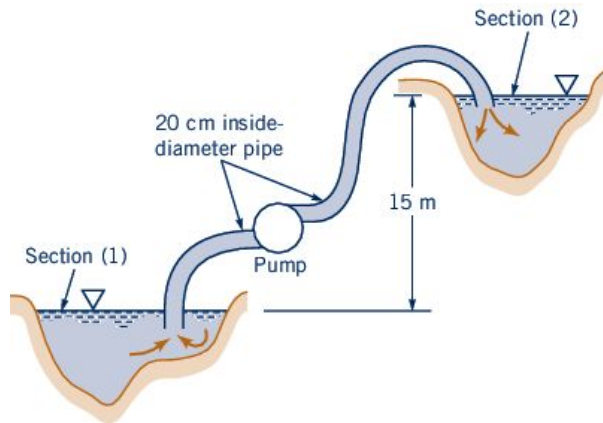

Figure 6: See problem 6.
Water is to be moved from one large reservoir to another at a higher elevation as indicated in Figure 6. The loss of available energy associated with $Q = 0.07\text{ m}^3/\text{s}$ pumped from section (1) to (2) is loss $l = (61 \bar{v}^2/2)\text{ m}^2/\text{s}^2$, where \bar{v} is the average velocity of water in the 20 cm inside diameter piping involved.